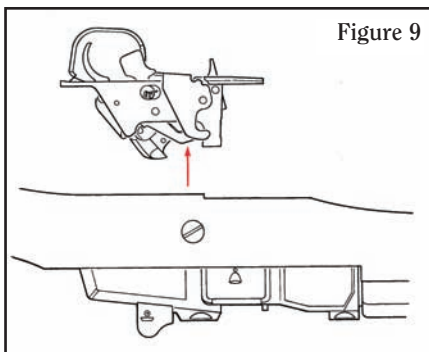

Figure 9
- Remove trigger housing assembly by carefully pulling it upward (see Fig. 9). Be careful not to damage stock when removing or replacing the trigger housing assembly.